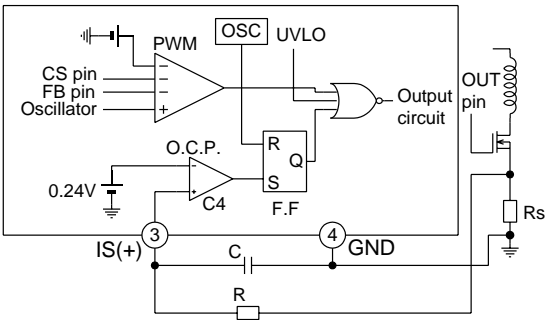
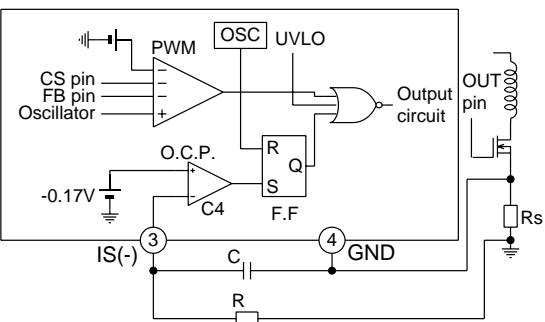
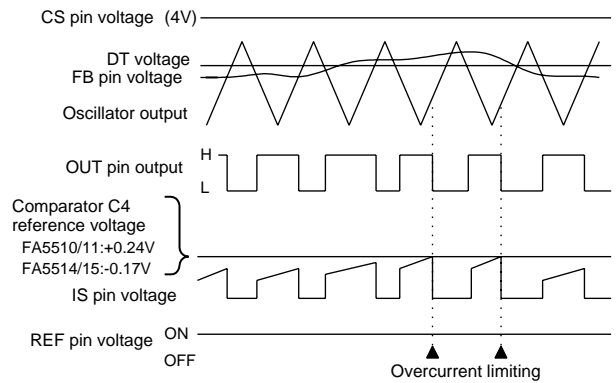

Fig. 13 Overcurrent limiting circuit (FA5510/11)
Fig. 14 Overcurrent limiting circuit (FA5514/15)
Fig. 15 Overcurrent timing chart
The overcurrent limiting circuit detects the peak value of every drain current pulse (pulse by pulse method) of the main switching MOSFET to limit the overcurrent. The detection threshold voltage is  $+0.24\text{V}$  for FA5510/11 or  $-0.17\text{V}$  for FA5514/15 with respect to the ground as shown in Figure 13 and Figure 14. The drain current of the MOSFET is converted to voltage by resistor  $R_s$  and fed to the IS pin of the IC. If the voltage exceeds the reference voltage  $+0.24\text{V}$  (FA5510/11) or  $-0.17\text{V}$  (FA5514/15) of comparator C4, comparator C4 works to set flip-flop output Q to high. The output is immediately turned off to shut off the current. Flip-flop output Q is reset on the next cycle to turn on the output again. This operation is repeated to limit the overcurrent.
If the overcurrent limiting circuit malfunctions due to noise, place an RC filter between the IS pin and MOSFET as shown in Figure 13 and Figure 14. (See item 12 in "Design advice.") Figure 15 is a timing chart that illustrates overcurrent-limiting operations.